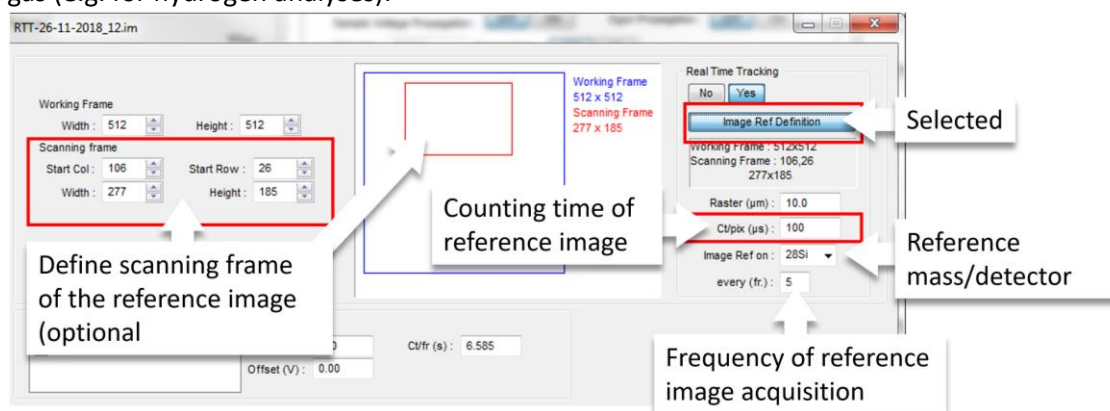

Figure 430: RTT in Def Analysis; definition of the reference image
- With “Image Ref Definition” **selected** (i.e. blue, see Figure 430: RTT in Def Analysis; definition of the reference image below), you can adjust the parameters for the **reference image** (= the drift correction image). Make sure the Working Frame raster and pixel sizes match the ones of the analysis area. Define the dwell time for the reference image, the detector (SIMS or SE) for the drift correction program to use to compare images, and the intervals at which the acquisition pauses to record a reference image (i.e. every 10 analysis images). You can also adjust the Scanning Frame size (this time it is the reference image) but it will be resizable & repositionable precisely a few steps later after the acquisition of the working frame image. The reference scan frame can be rectangular. In the screen copy below it is large; in reality one will try to minimize this ref image size to minimize the time taken by the drift correction process, mostly for minimizing recontamination of the analysis crater by residual gas (e.g. for hydrogen analyses).